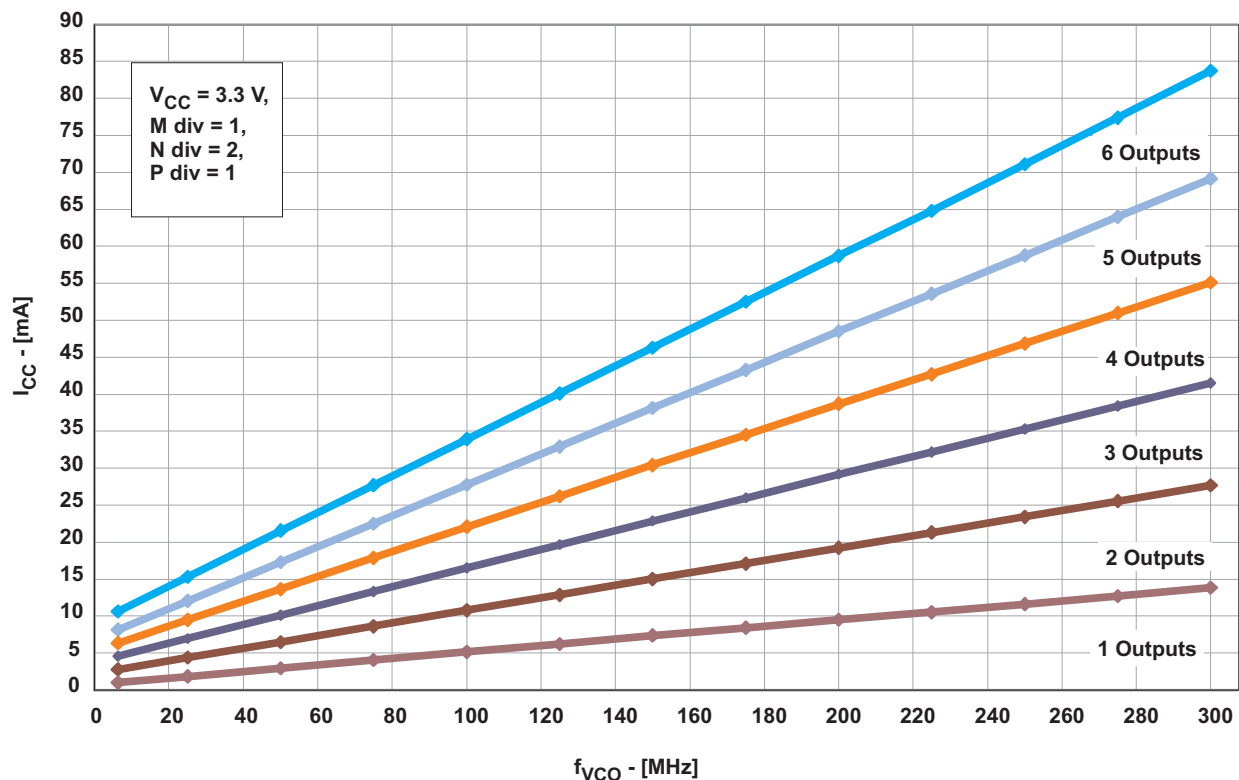

Figure 4.  $I_{CCOUT}$  vs Number of Outputs and VCO Frequency
(1) All typical values are at respective nominal VCC.
(2) For calculating total supply current, add the current from Figure 2, Figure 3, and Figure 4. Using high-speed mode of the VCO reduces the current consumption. See Figure 3.
(3) Normal-speed mode or high-speed mode must be selected by the VCO frequency selection bit in Byte 6, Bit [7:5]. The min fVCO can be lower but impacts jitter-performance.
(4) Do not exceed the maximum power dissipation of the 20-pin TSSOP package (600 mW at no air flow).